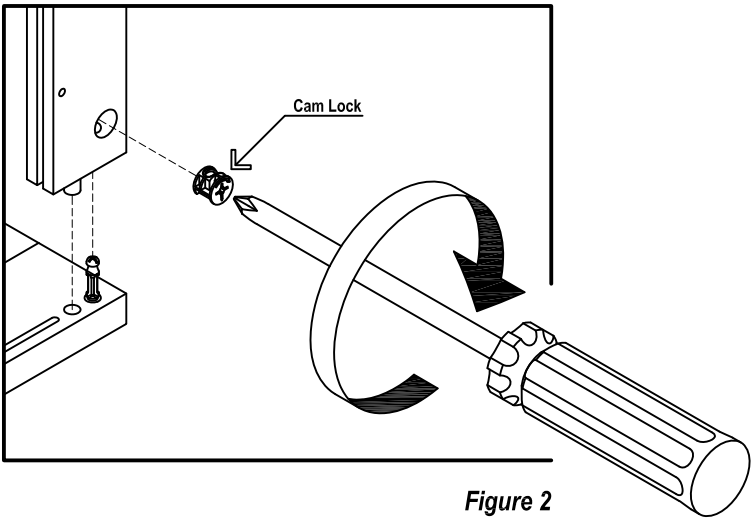

Figure 2
Attach Back Pieces (F) & Base Piece (H) to Side Panel (B) using Cam Locks. (See figure 2)